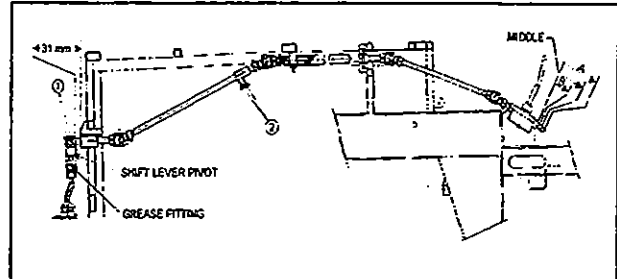

Figure 5: Gear Shift Linkage
2. Loosen nuts (1, Fig. 5).
3. Loosen nuts (2, Fig. 5).
- a. Put the shifter lever in first speed and measure the distance A on the gear shaft (3, Fig. 5).
- b. Put the shifter lever in second speed and measure the distance B on the gear shaft (3, Fig. 5).
7. Tighten all loose nuts (1) and (2).
Grease with good quality lithium-base grease NLGI No.1 (Fig. 5):
- a. Remove the two bolts that secure the coupling lever to the shift rod (1, Fig. 5).